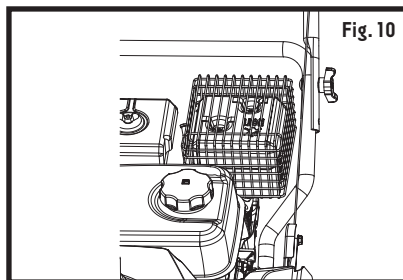

Fig. 10
5. Tighten the filler cap after filling: finger tight only (see fig.10).